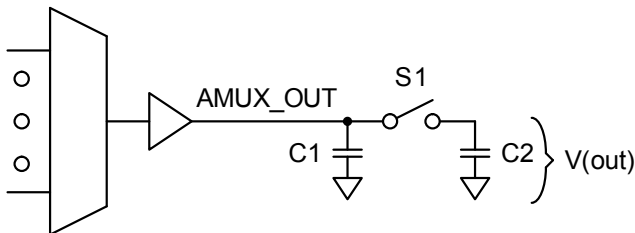

Figure 19-2 Analog multiplexer load condition for settling time specification
b. See Figure 19-2 for a model of the typical load circuit. C1 represents parasitic capacitance (0 to 20 pF); C2 is the sampling capacitor (63 pF); and S1 is the sampling switch (1 kW maximum). After S1 closes, the voltage across C2 settles within the specified settling time.